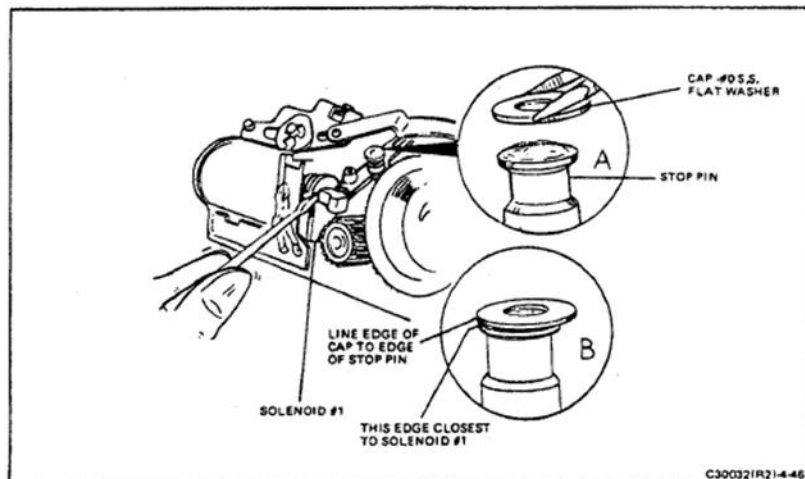

FIGURE 4-46 INSTALLING CAP ON FOLLOW FOCUS STOP PIN
- (1) Set lens to infinity, set trim wheel to full light, then remove the focus wheel, and release initial hang-up with a dental pick.
- (2) Mix some "Devcon" 5-minute epoxy.
- (3) With a jeweler's screwdriver, insert the blade behind the Sol. #1 plunger, and push inward, and hold this position (see Figure 4-46).
- (4) Put a pencil point amount of epoxy on the follow focus stop pin head.
- (5) With a tweezer, put the new cap (#0, S.S. flat washer) on the follow focus stop pin. It is important that the new cap be put on in the same position as shown in Figure 4-46. The edge of the new cap must line up with the edge of follow focus stop pin.